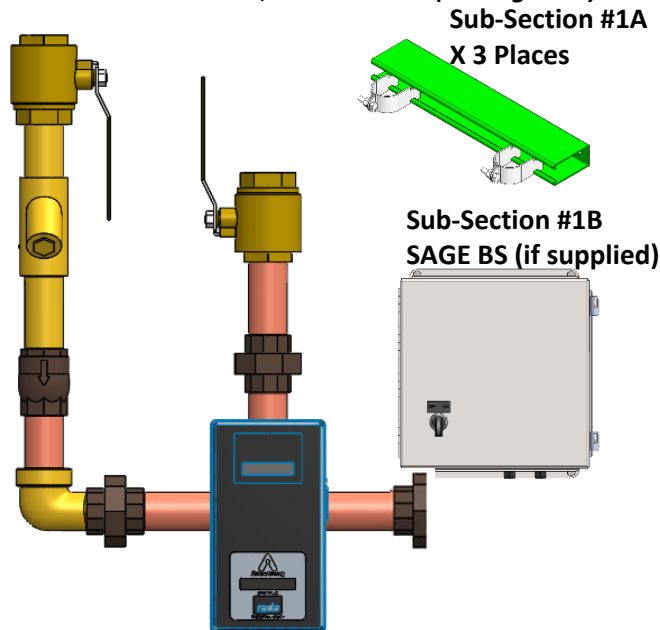

Figure 4: Sub-Section #1
- Sub-Section #1 – Hot Inlet & DRV & Misc. Components (*see Figure 4*)